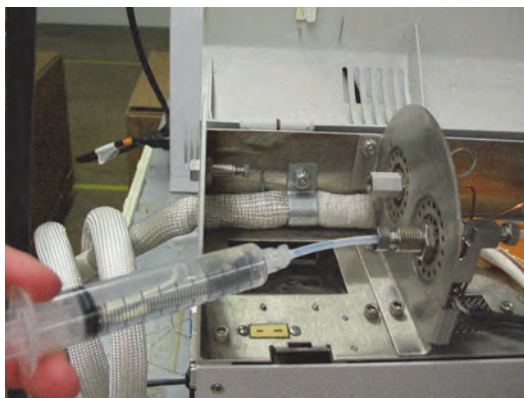

Figure 6.41. Rinsing the Sample Pathway with Methanol
- Using the rinsing tool and the syringe, rinse 10 mL of methanol through the transfer line (see Figure 6.41). Repeat twice more with clean aliquots of methanol.